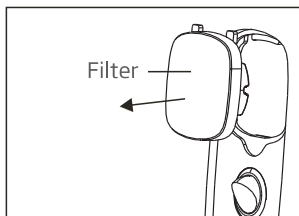
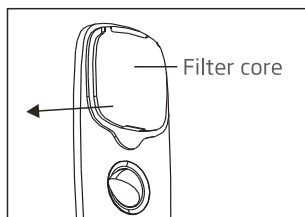

Figure 7
Figure 8
- ▶ The mesh in filter cleans once half a month. (See Figure 7, Figure 8) Filter can be taken out from the back panel.